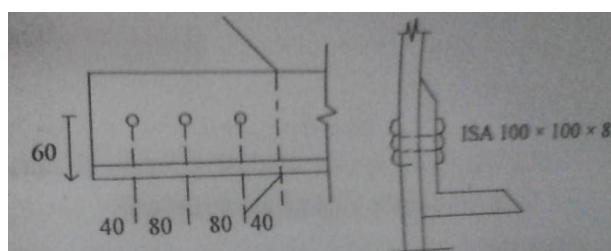

**Fig. 3a**
1. Determine the effective net area of ISA 200 × 100 × 12 members shown in the following Fig. 3a.